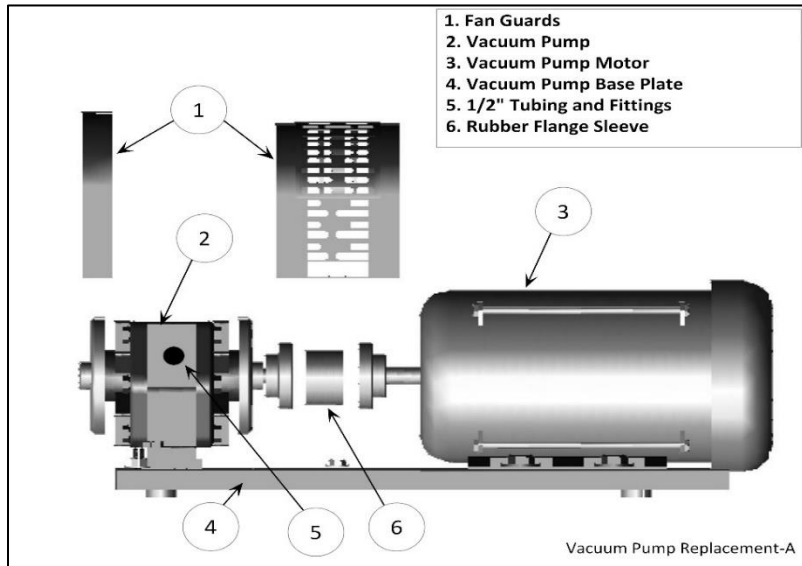

Figure 9-14: Vacuum Pump Assembly and Components
1. For the Vacuum Pump Assembly and Components, **See Figure 9-14.**
**See Figure 9-14.**